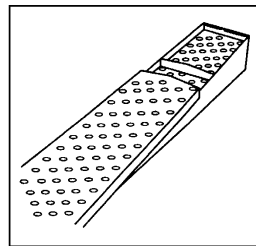

Figure 5
6. Install cover by sliding it on the small end. (See **Figure 5.**)